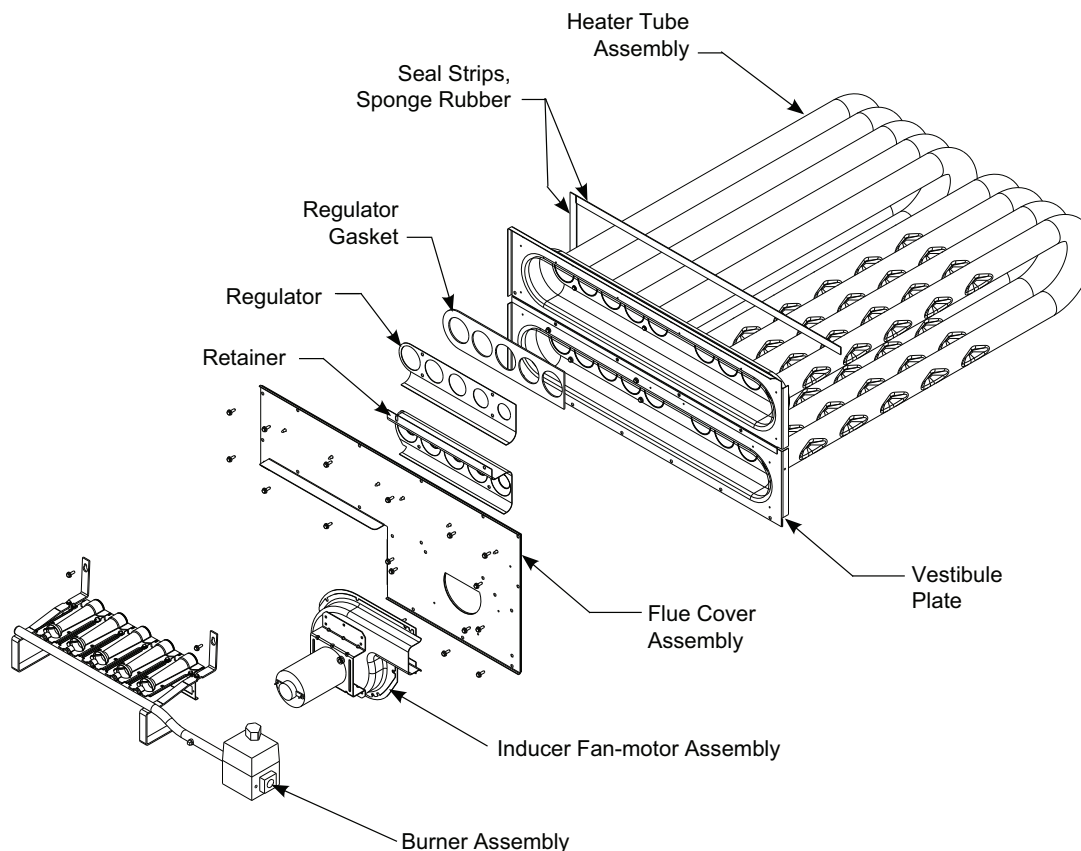

Fig. 56 — Heat Exchanger Assembly
1. Remove the combustion blower wheel and motor assembly according to directions in Combustion-Air Blower section. See Fig. 56.
2. Remove the seven screws attaching the induced-draft motor housing to the vestibule plate. (See Fig. 56.)
9. Remove the two screws attaching the burner rack to the vestibule plate (see Fig. 56).
10. Remove the pressure switch hose from the connection on the flue cover assembly (see Fig. 56).
14. Separate the following from the heat exchanger: inducer fan-motor assembly, flue cover assembly, retainer, regulator, and regulator gasket. See Fig. 56.